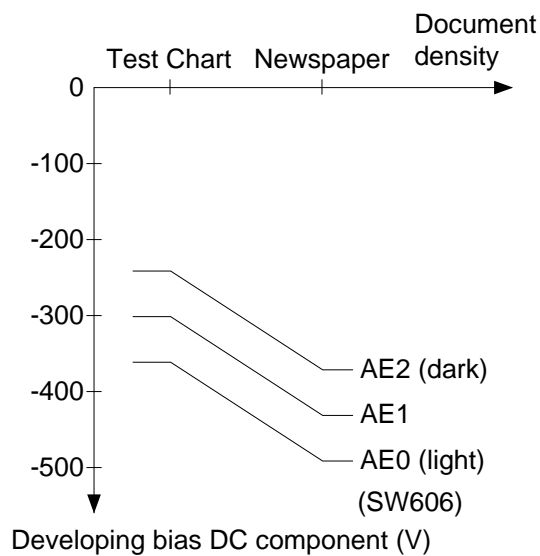

**Figure 4-101D**
Figure 4-101D, 102D shows the changes in the DC component of the developing bias caused by the density control dial/lever in manual density control mode; Figure 4-103D, on the other hand, shows changes in the DC component of the developing bias caused by different document densities in automatic density adjustment mode (AE).